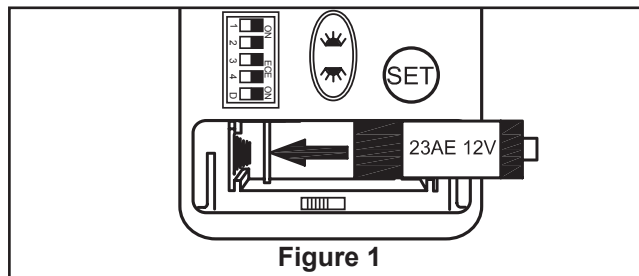

Figure 1
**1.** To make fan operational, remove the top panel then install 23A/12V battery (included) in wall control, with fan power off, arrange code switches to desired code setting. Then follow the remote code setting process. (If not used for long periods of time, remove battery to prevent damage to transmitter). Store the remote away from excessive heat or humidity (Figure 1).